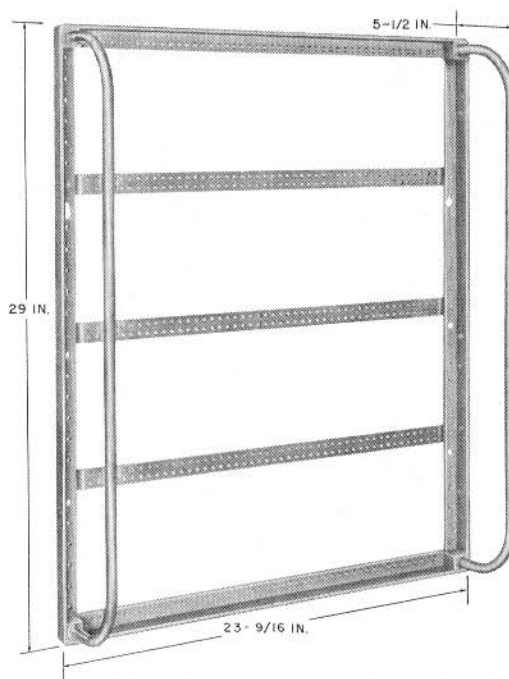

**Fig. 6—69-Type Apparatus Mounting on a 99-Type Bracket**
- 69-type apparatus mountings (Fig. 6), or 601A, 602A, or 603A panel on 99-type brackets.